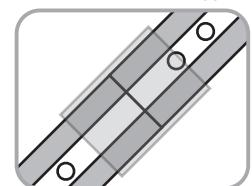

FIGURE 4
- Snap the provided clear securing clip over the connection point over the lens to firmly join the strips together (see Figure 4).